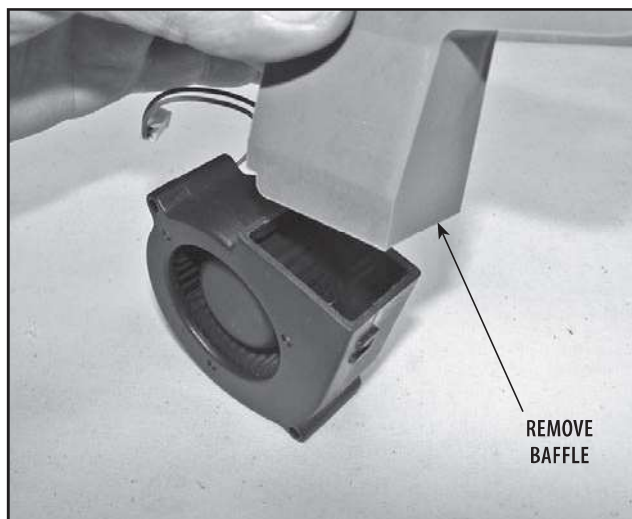

FIGURE 6.24
4. Remove the Fan Baffle from the Fan Housing. **See Figure 6.24.**